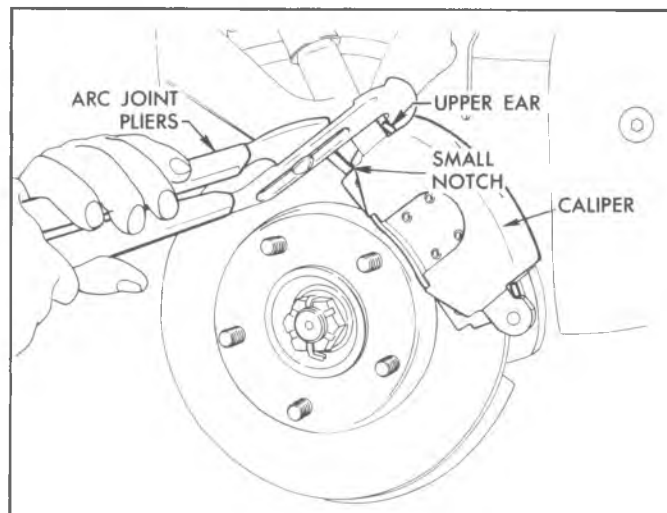

Fig. 58--Fitting Shoe to Caliper
13. Using arc joint pliers, as shown in Figure 58, bend both upper ears of the outboard shoe until no radial clearance exists between the shoe and the caliper housing. Locate pliers on small notch of caliper housing during clinching procedure.